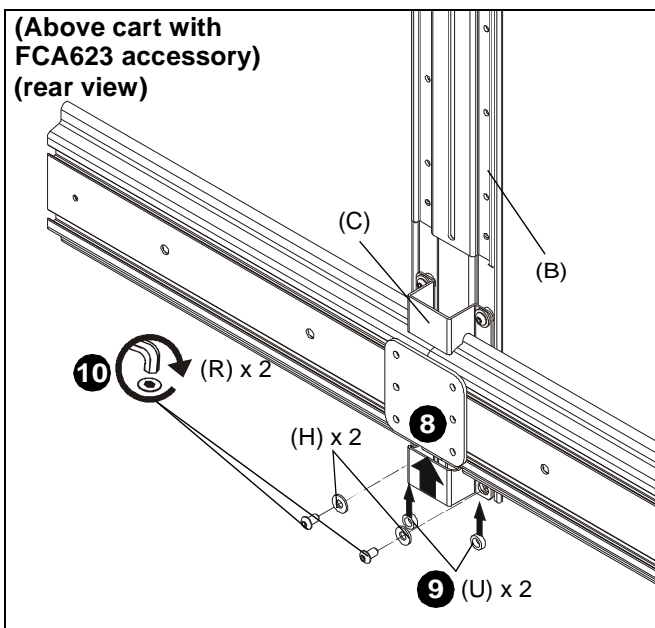

Figure 23
8. Slide second shelf bracket (C) underneath head assembly, lining up holes on shelf bracket (C) to holes on main bracket (B). (See Figure 23)
9. Slide two 1/2" spacers (U) in between shelf bracket (C) and main bracket (B). (See Figure 23)
10. Use two 1/4-20 x 1/2" button head cap screws (R) and two large washers (H) to secure shelf bracket (C) to main bracket (B). (See Figure 23)